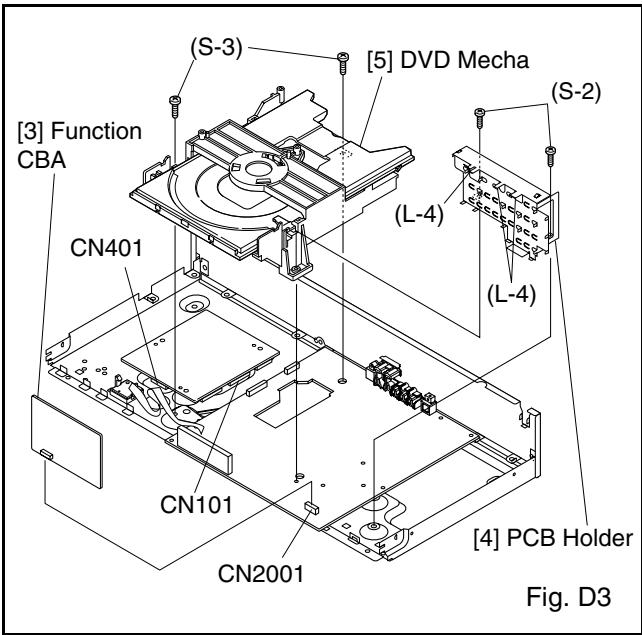

Fig. D3
- 2-3. Disconnect Connector (CN401). Remove two Screws (S-3) and lift the DVD Mecha. (Fig. D3)